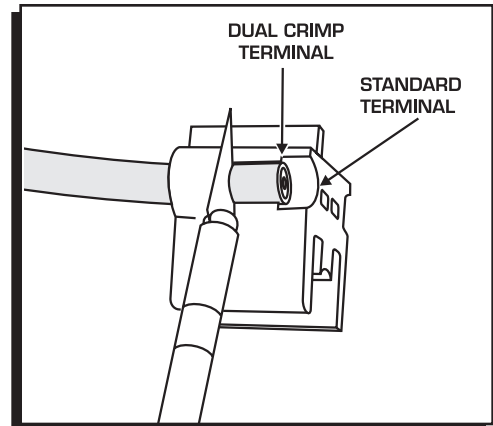

Figure 6 Stripping the Sleeve.
2. There are two stripping positions indicated on the stripping slot, depending on the terminal being used. Slide the wire to the correct position and strip the sleeve by holding a razor blade flush with the strip guide and rotate the wire 360° (Figure 6).